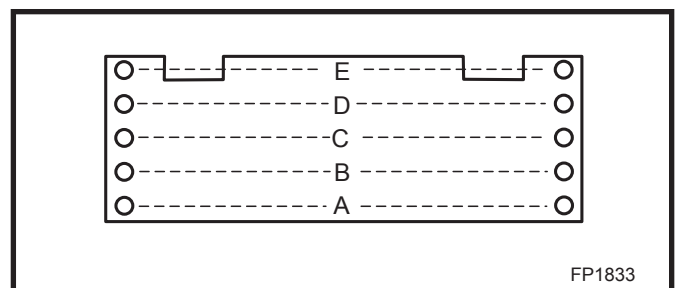

Fig. 13 Deflector holes.
support to the back of the fireplace and drop the deflector down over the air inlet ports. There are five (5) holes on each side of the deflector. For extended vent runs, hole 'C' works the best. (Fig. 13) This is a guide. It may be necessary to adjust the deflector in a different hole location depending on your installation. Be sure there is no lifting or ghosting of the flame.